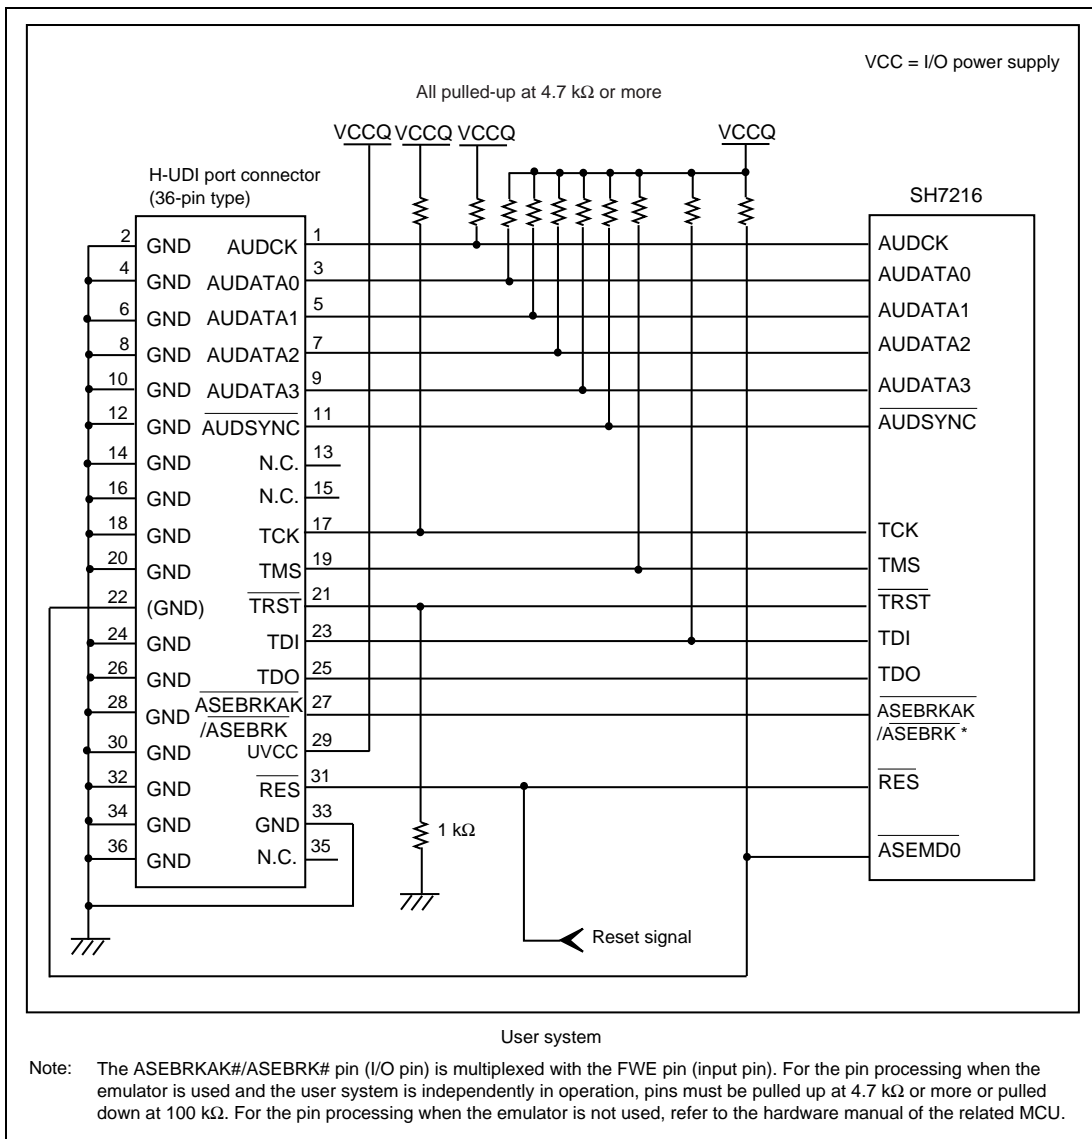

Figure 2.12 Recommended Circuit for Connection between the H-UDI Port Connector and MCU when the Emulator is in Use (36-Pin Type)
Figure 2.12 shows recommended circuits for connection between the H-UDI and AUD port connectors (36 pins) and the MCU when the emulator is in use.
- (1) When the emulator is used: ASEMD0# = 0
- (2) When the emulator is not used: ASEMD0# = 1Figure 2.12 shows examples of circuits that allow the ASEMD0# pin to be GND (0) whenever the emulator is connected by using the H-UDI/AUD probe. When the ASEMD0# pin is changed by switches, etc., ground pin 22. Do not connect this pin to the ASEMD0# pin.
7. The resistance values shown in figure 2.12 are for reference.